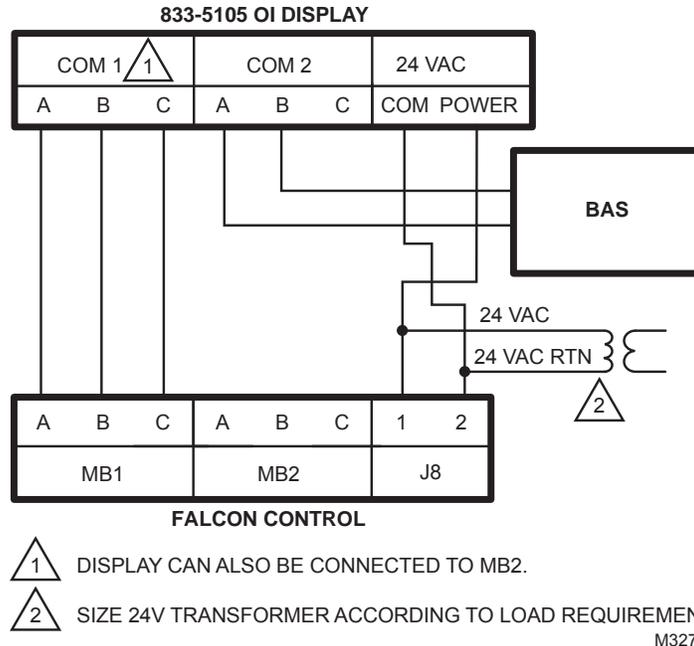

Fig. 2. 833-5105 wiring diagram.
7. Wire the 24 Vac power supply and the RS-485 cables using the wiring diagram in Fig. 2.